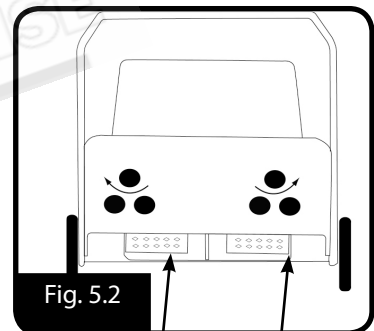

Fig. 5.2
- b. Once the steel plate is in position for rolling then the depress the pedal (Fig5.2) to move the plate in the direction required.